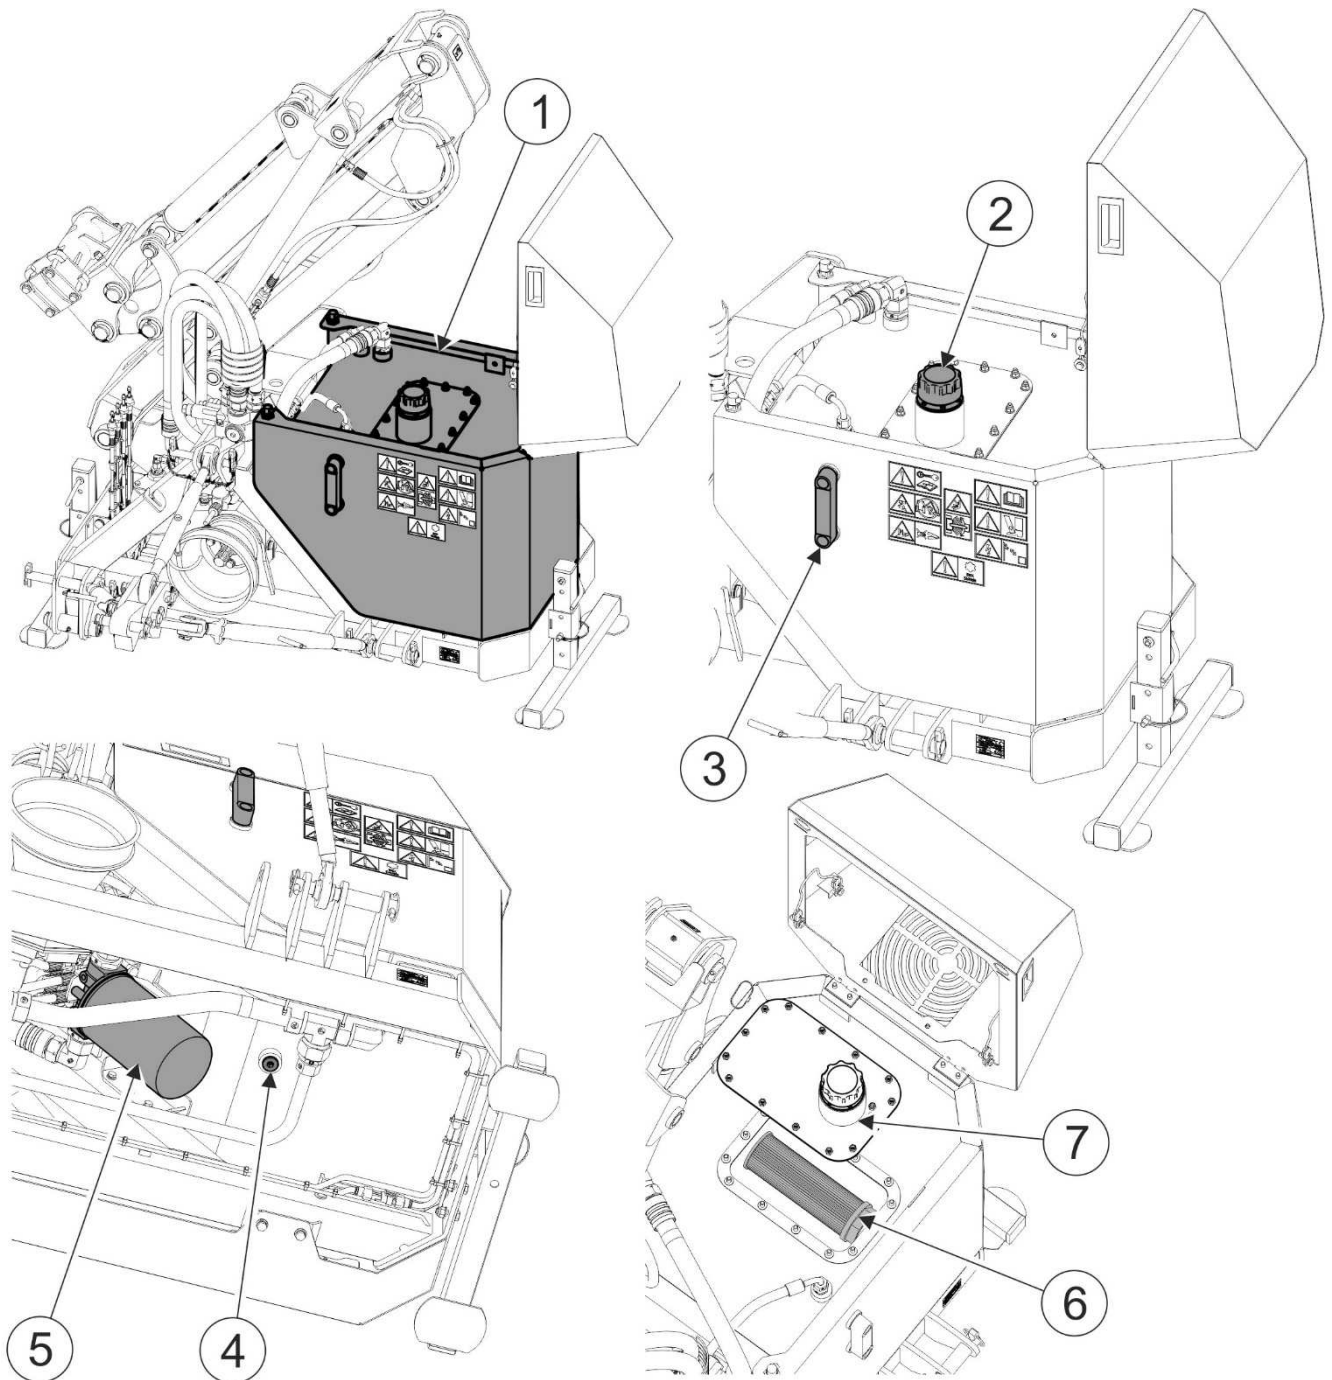

FIGURE 5.1 Oil tank
The oil tank (1) (FIGURE 5.1) holds 130 l of hydraulic oil type HL46. Check tank welded joints and hydraulic hoses for leaks every day.